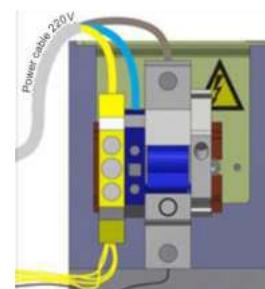
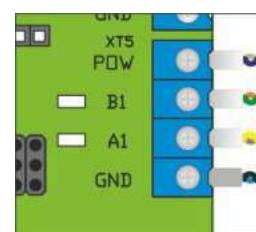

Fig.18 - Connection of power supply cable
Fig.19 - Connection the communication cable with control panel to terminals
a) Power supply cable ~220 V to be connected (Fig. 18):
- **Neutral (N)** to be connected to terminal ~220V (N);
- **Earth (PE)** to be connected to earthing terminal (PE).
b) Control panel cable to be connected to terminals (Fig. 19):